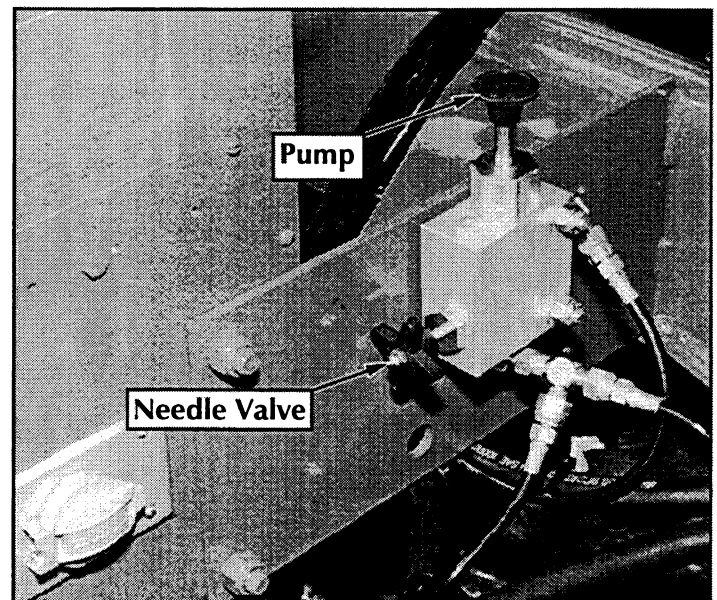

Figure 3-2: Brake Release Pump
3.5 Brake Release Pump (Figure 3-2)